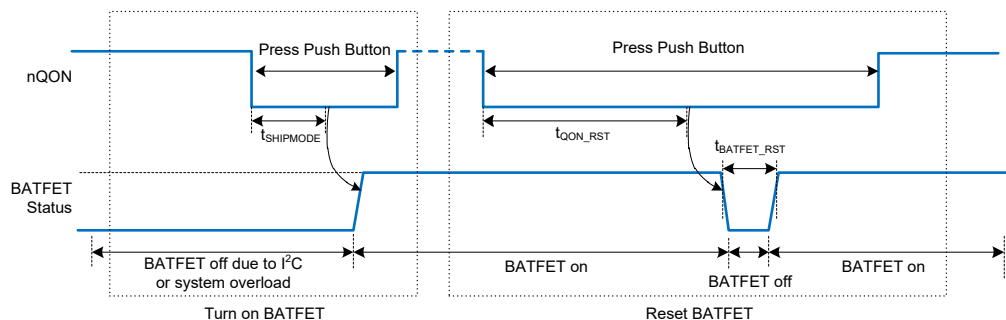

Figure 11. nQON Enable and Reset BATFET Timing
1. Enable BATFET: Applying an nQON logic high to low transition with longer than $t_{SHIPMODE}$ deglitch time (negative pulse) turns on BATFET to exit ship mode (Figure 11 left). HIZ is also enabled (EN_HIZ = 1) when exiting shipping mode. After exiting shipping mode, the host can disable HIZ (EN_HIZ = 0). OTG cannot be enabled until HIZ is disabled (OTG_CONFIG = 1).
2. Reset BATFET: By applying a logic low for a duration of at least t_{QON_RST} to nQON pin while VBUS is not powered and BATFET is allowed to turn on (BATFET_DIS bit = 0), the BATFET turns off for t_{BATFET_RST} and then it is re-enabled resulting in a system power-on reset. This function can be disabled by clearing BATFET_RST_EN bit (Figure 11 right).